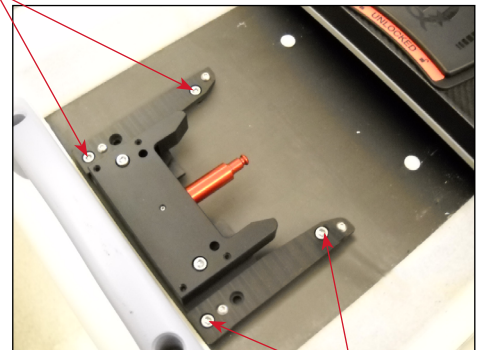

Fig. 2
3. Attach the Qfix Foot End Mounting Assembly to the cradle. Use (4) ¼-20 x 2.5 Socket Head Screws to attach to cradle. The Foot Mount assembly should be placed on the holes furthest from the head of the unit (Fig. 2).